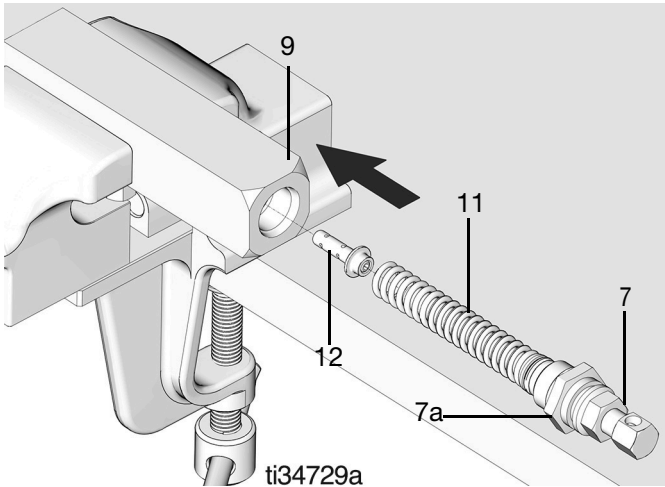

FIG. 14
8. Install spring (11) over the end of the indicator pin (8) (FIG. 14).
9. Install plunger/ poppet (12) into the end of the spring (11) (FIG. 14).
10. Install displacement piston assembly (7) in injector body (9) (FIG. 14). Secure a deep well 15/16 inch (24 mm) socket over hex (7a) and turn it clockwise to tighten fitting. Torque to 65-70 ft-lbs (88.1-94.9 N•m).